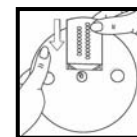

Fig. 7
2. To insert the blade of your choice into the blade holder, place the longer tab of the blade into the blade holder first. (Fig. 7)